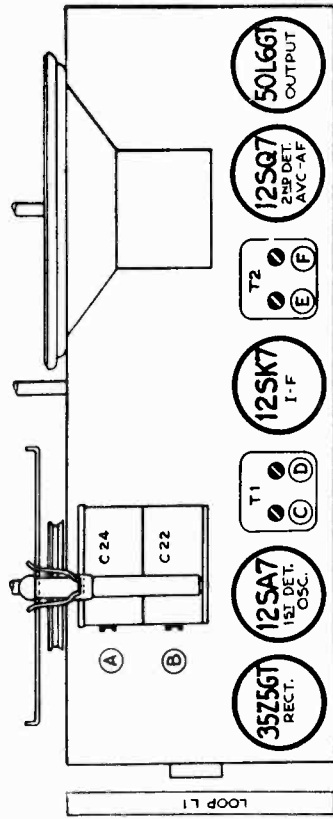

FIG. 3--PARTS LAYOUT--Top View
- (c) Adjust the broadcast oscillator trimmer (Illus. H, Fig. 3 & 4) to maximum output.
- (e) Tune the receiver to quiet point at 1600 KC end of dial, set Volume Control full on, adjust the trimmers on the second I-F transformer (illus. E, F, Fig. 3) for maximum output.
- (g) Adjust the trimmers on the first I-F transformer (illus. C, D, Fig. 3) for maximum output.